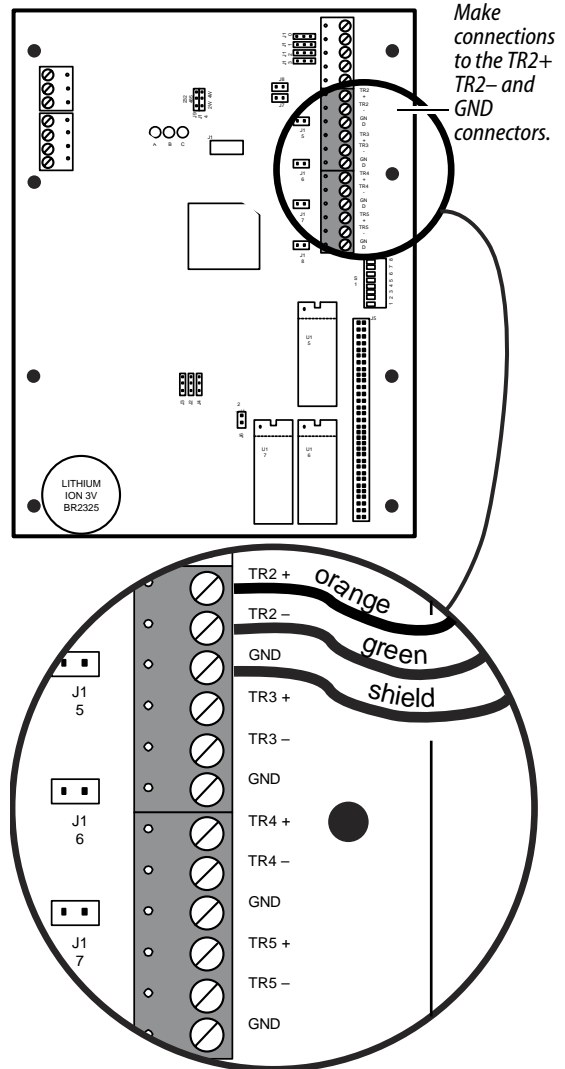

Figure 22 Making connections to the access control panel, BAS-1000 shown.
- 2 Connect the orange wire or its extension to the RS485 connection TR2+ or higher. See Figure 22.